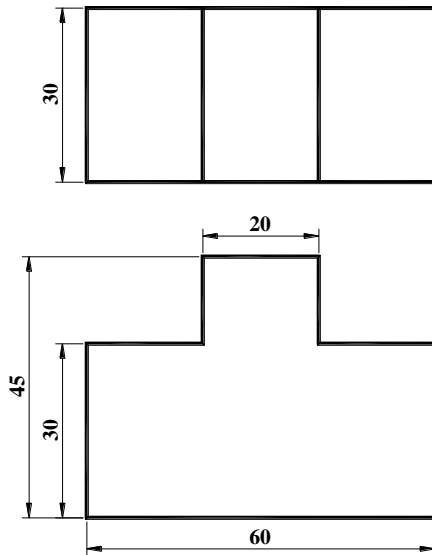

Figure T3.1a
1. Draw the perspective projection from the given orthographic views in *Figure T3.1a* to *T3.1d*.